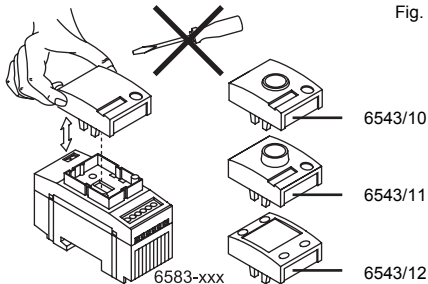

Fig. 4
## **Centralised and decentralised pushbutton mode (see Fig. 4)**
**Centralised and decentralised rotary dimmer mode (see Fig. 4)****Turn-on**